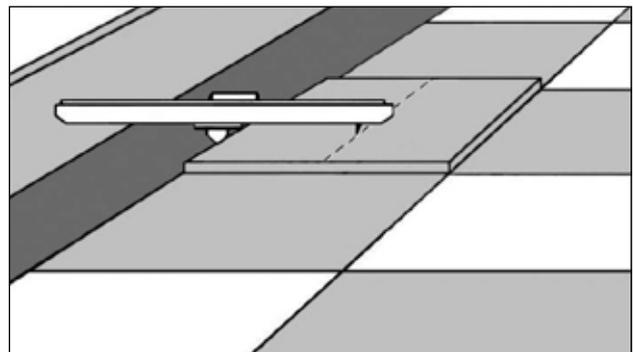

Fig. 4: Method of a set of drawing instruments
5.5.2.2 Method of a set of drawing instruments (Fig. 4)